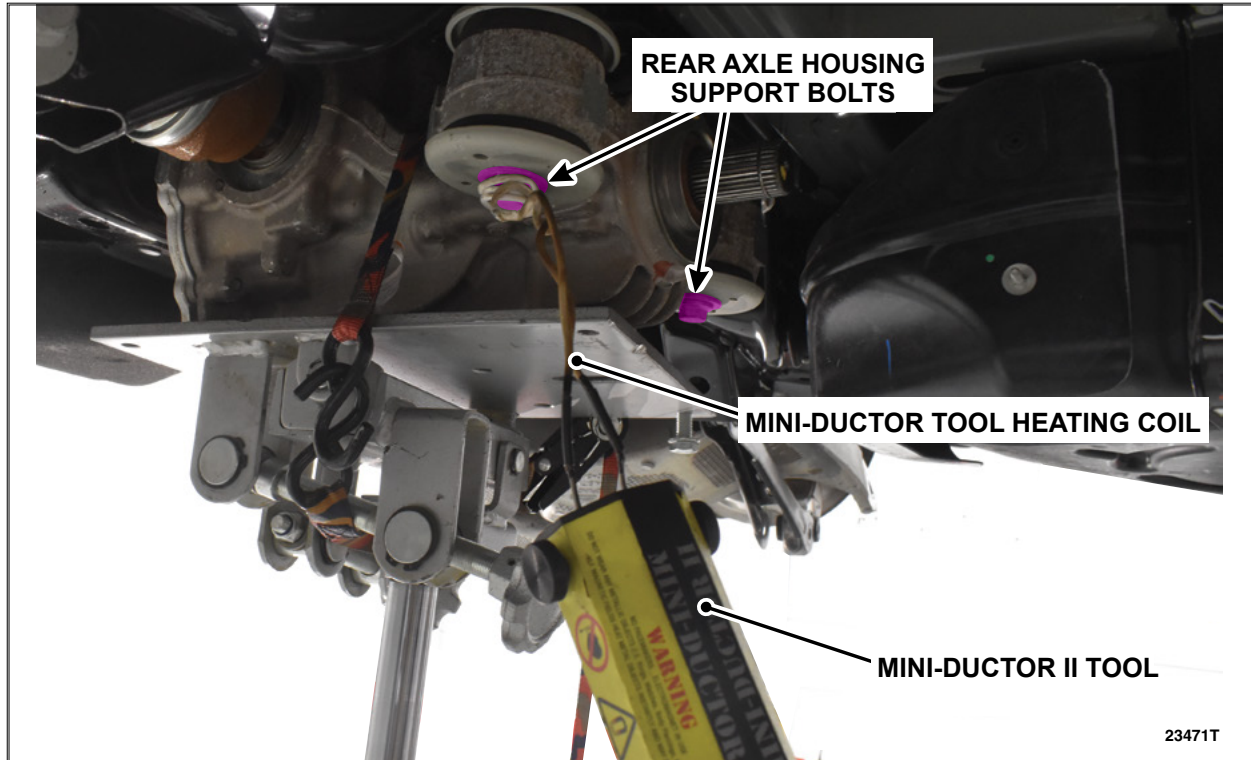
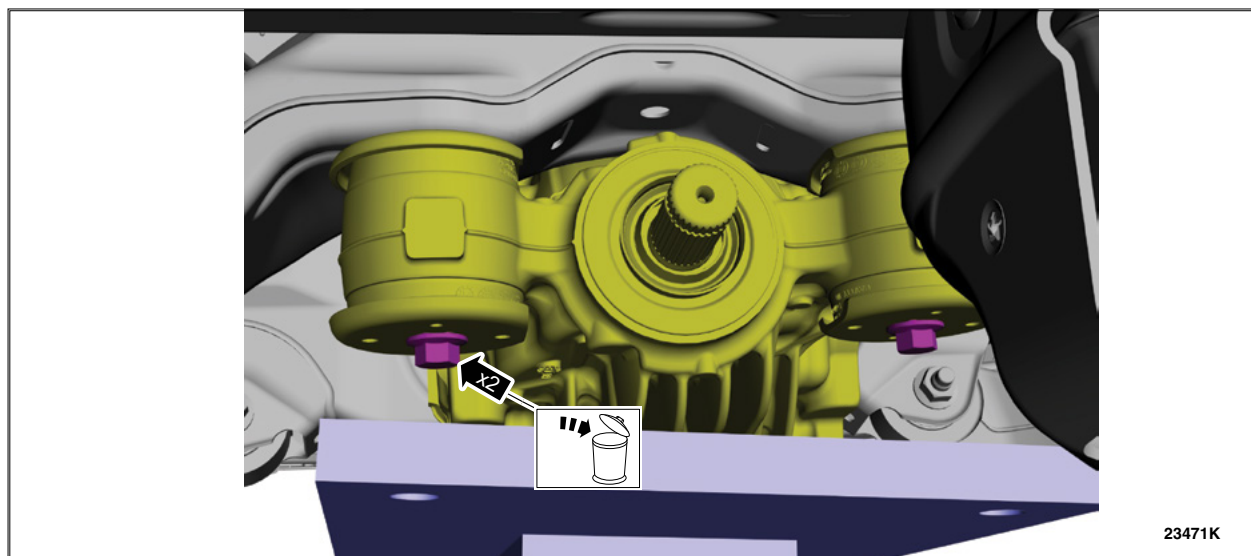

FIGURE 11
FIGURE 12
19. Using a flameless heat tool, such as the Rotunda Mini-Ductor II (part number IDIMD-700) or equivalent, heat up both front rear axle housing support bolts, as shown in Figure 11. Using a breaker bar, loosen both bolts. Then remove and discard both rear axle housing support bolts. See Figure 12.